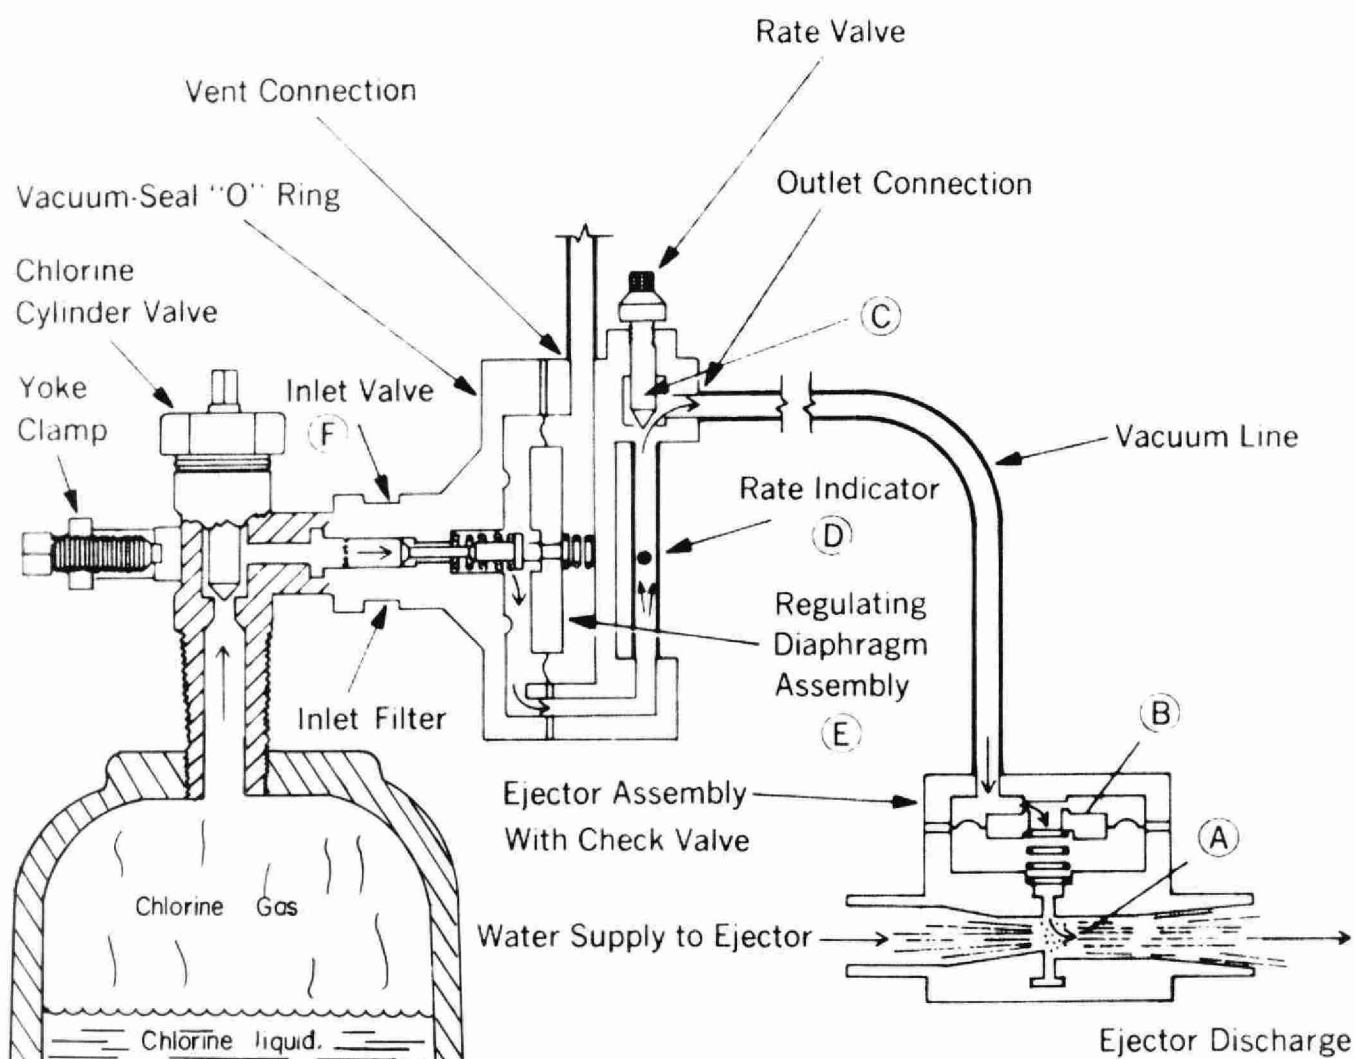

FIG. 13-2. ADVANCE GAS CHLORINATOR FLOW DIAGRAM
2. Advance Chlorinator (see Fig. 13-2)